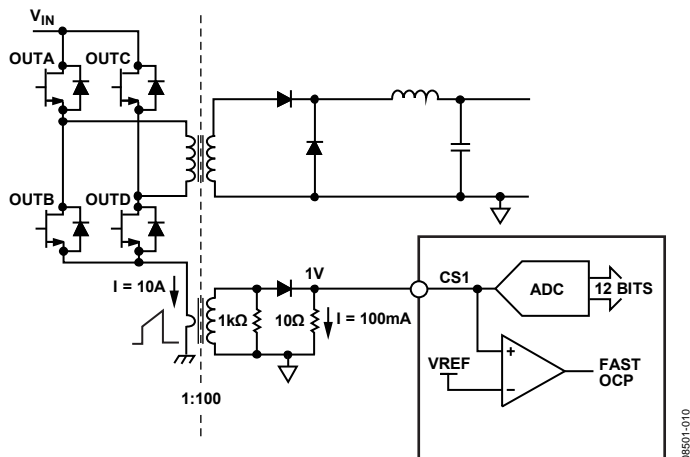

Figure 10. Current Sense 1 (CS1) Operation
CS1 is typically used for the monitoring and protection of the primary side current. This is commonly known as the current transformer (CT) method of current sensing. The input signal at the CS1 pin is fed into an ADC for current monitoring. The range of the ADC is 0 V to 1.38 V. The input signal is also fed into a comparator for fast OCP protection. The typical configuration for the current sense is shown in Figure 10.